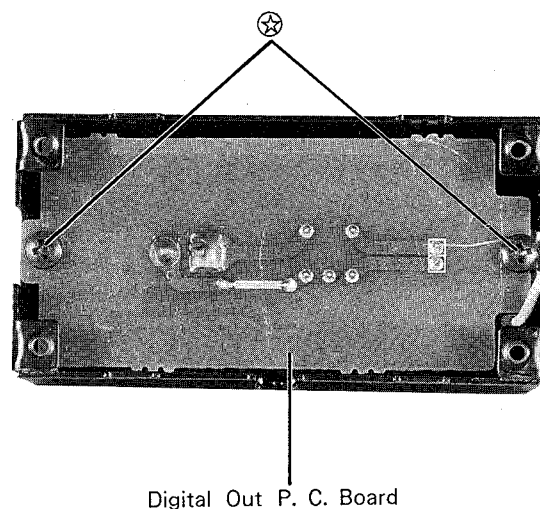

Figure 12
- (2) Remove four screws marked "⊗" as shown in Figures 12 and 13.